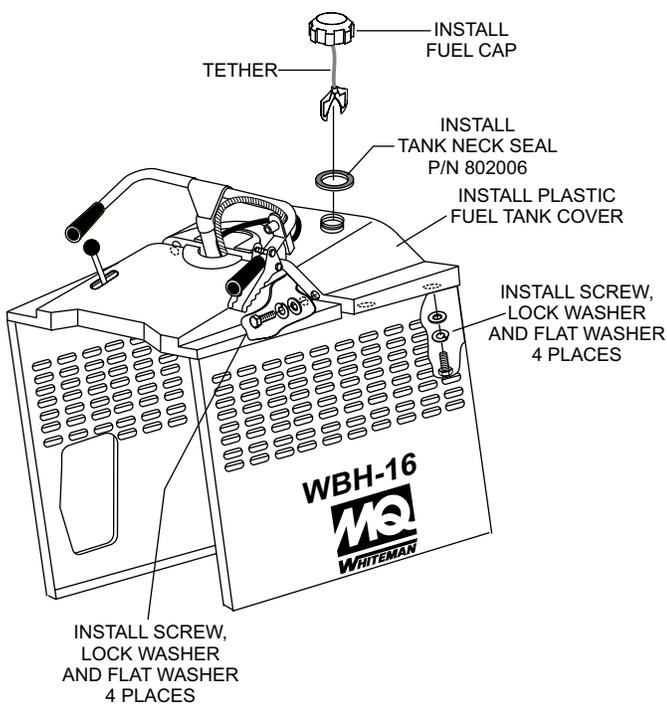

Figure 21. Tank Neck Seal Installation
2. Install new fuel tank neck seal (P/N 802006) as shown in Figure 21.